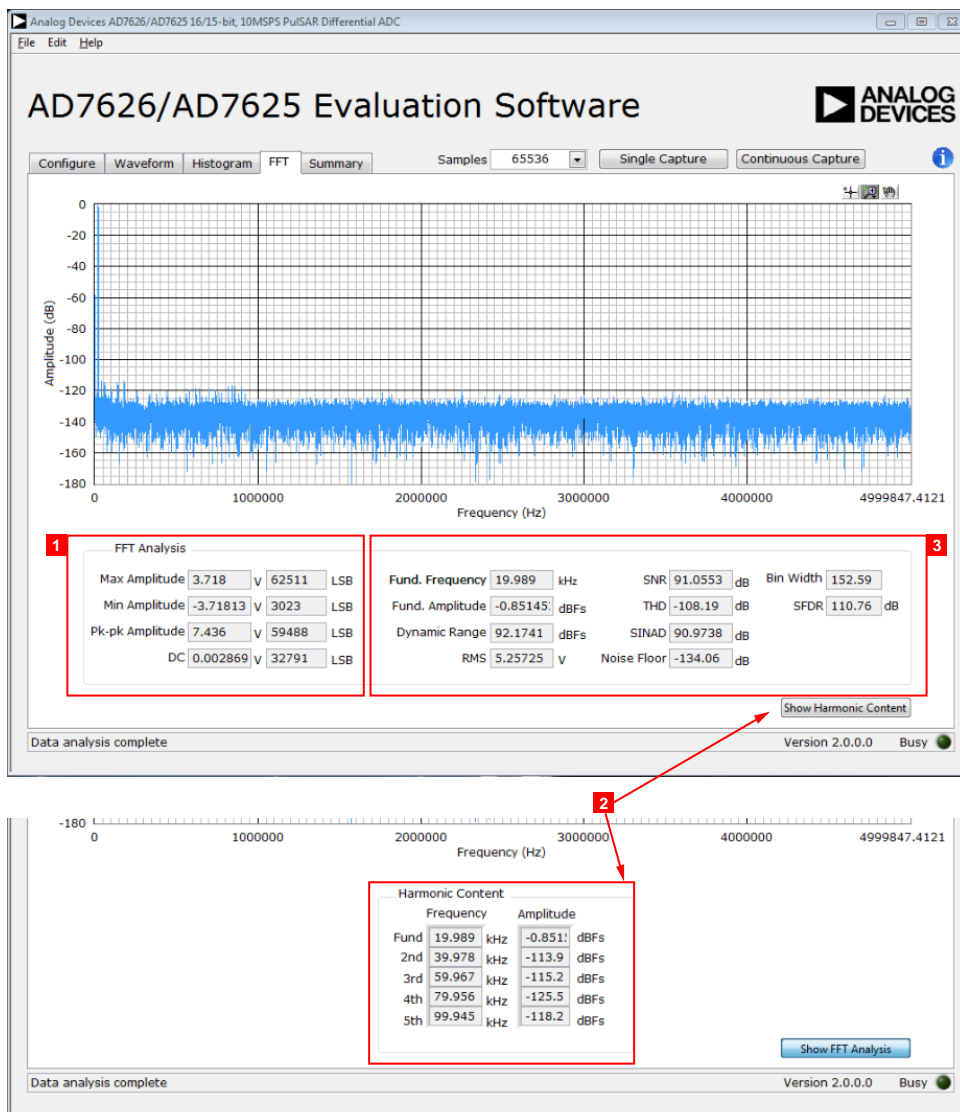

Figure 22. FFT Capture Tab
Figure 22 shows the FFT tab. This tests the traditional ac characteristics of the converter and displays a FFT of the results. As in the histogram test, raw data is captured and passed to the PC where the FFT is performed to display the signal-to-noise ratio (SNR), signal-to-noise-and-distortion ratio (SINAD), total harmonic distortion (THD), and spurious-free dynamic range (SFDR).
Figure 22 displays the results of the captured data.
**FFT Analysis** shows the input signal information (Label 1 in Figure 22), as well as the performance data, including SNR, dynamic range, THD, SINAD, and noise performance (Label 3 in Figure 22).
**Show Harmonic Content** displays the fundamental frequency and amplitude in addition to the second to fifth harmonics (Label 2 in Figure 22).